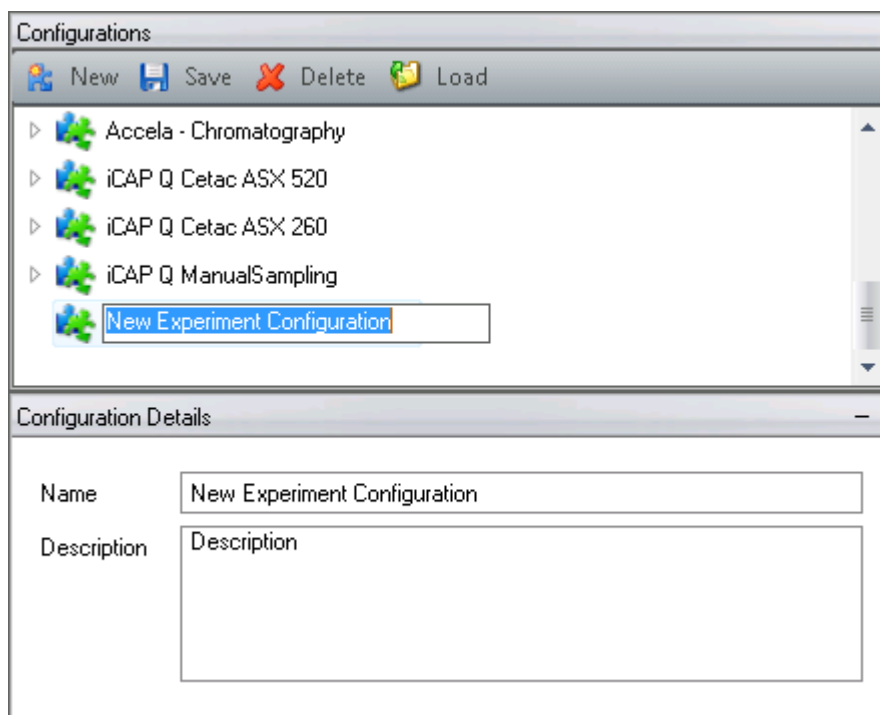

Figure 3-10. Add new Experiment Configuration
- Click  **New** to add a new Experiment Configuration, see Figure 3-10.